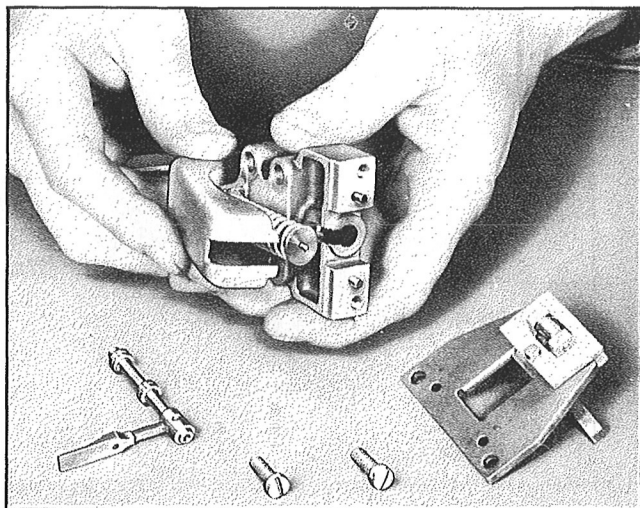

Figure 203—Installation of the Governor Spring
*Step 3.*—Install the spring and spring guide on the adjusting screw and, using the Governor Spring Clamp, Figure 66-7, compress the governor spring approximately  $\frac{1}{2}$ ". See Figure 203.